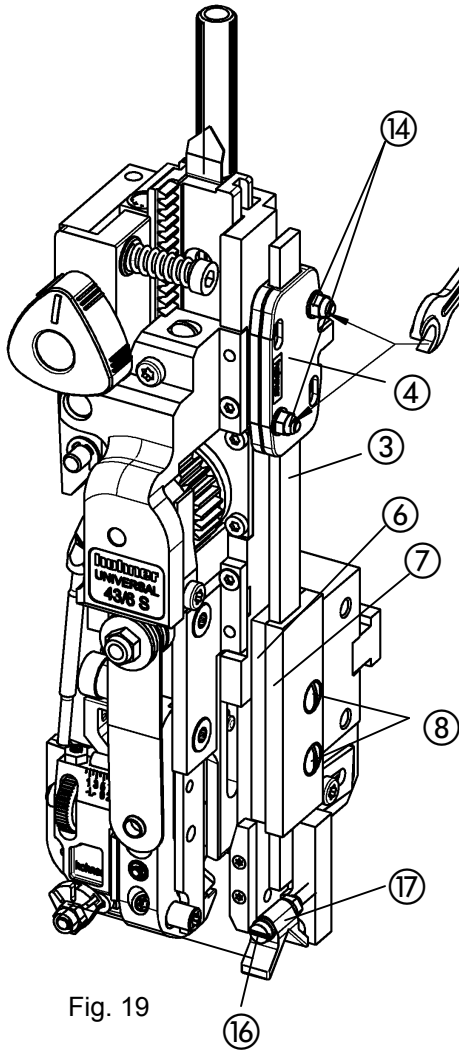

Fig. 19
Fig. 19 b
Fig. 19 a
- Fig. 19 - (see Spare Parts List, page E 31)
- Put centering device rods ③ with carrier ④ between distance plate ⑥ and guide plate ⑦ (plates and rods should be slightly lubricated).
- Screw in screws ⑧ through the plate holes in the thread on the housing and tighten screw; the rods ③ should be parallel with the housing edge.